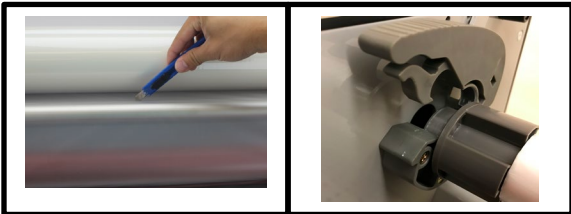

Figure 13
**Step 2:** If reloading film, cut the remaining top and bottom film webs between the supply rolls and the idler bars (Fig 13)
**Step 3:** Pinnacle EZload Raise the four film levers on the FILM SADDLES and remove the old rolls of film. (Fig. 13)